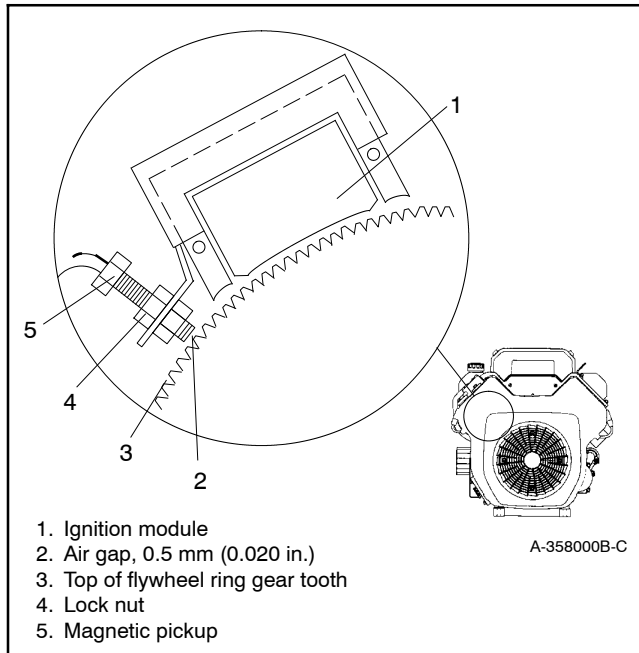

Figure 6-24 Magnetic Pickup Air Gap
6. If the voltmeter displays less than 1.75 volts AC, check the air gap as described in the following steps before replacing the sensor. Verify that the magnetic pickup air gap is 0.5 mm (0.020 in.). Measure the air gap at 3 or 4 places to get an accurate reading. See Figure 6-24.
- d. Adjust the air gap, if necessary, by loosening the locknut and turning the pickup. See Figure 6-24.